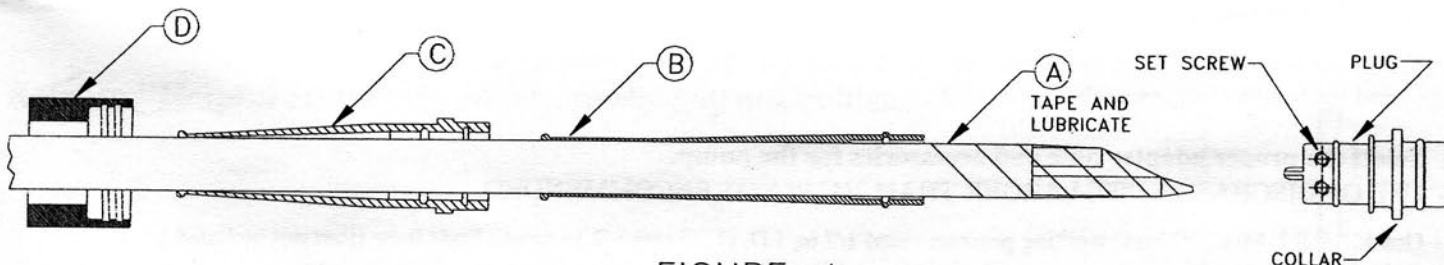

FIGURE 4
- Wrap electrical tape around the cable. Start 2 in. (5 cm) below outer cable jacket and continue to taper a point past the end of lead wires (Fig. 4).
- Slide the cable boot components over the cable (Part A) in the following order (Fig. 4).